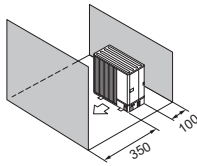

Fig. 2-10
- (5) Obstructions or closed surfaces at front and rear only (Fig. 2-10)